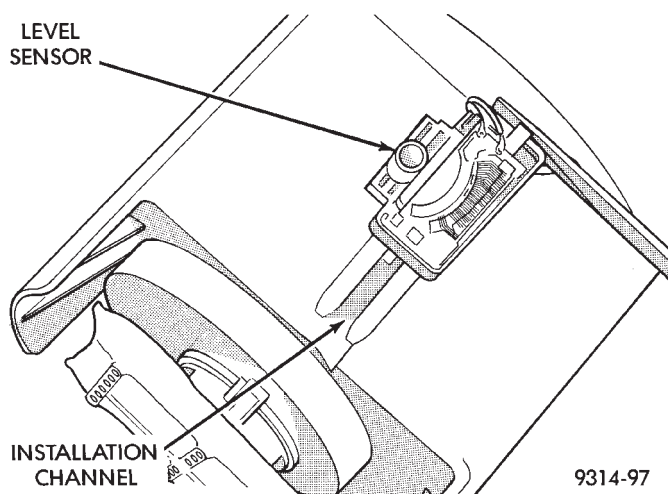

Fig. 13 Fuel Level Sensor Removal
(4) Insert a screwdriver between the fuel pump module and the top of the level sensor housing (Fig. 13). Push level sensor down slightly.
(6) Slide level sensor out of installation channel (Fig. 13).